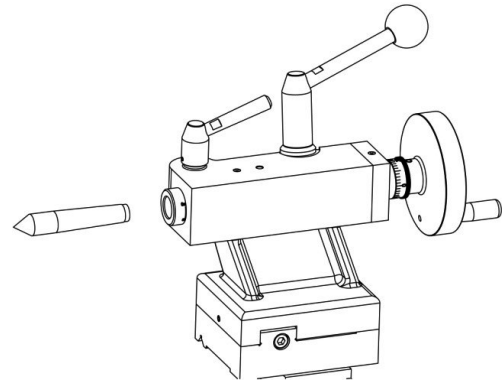

Figure 11 Inserting dead center into tailstock quill
4. Slide the dead center into the tailstock quill as Shown in Figure 11.